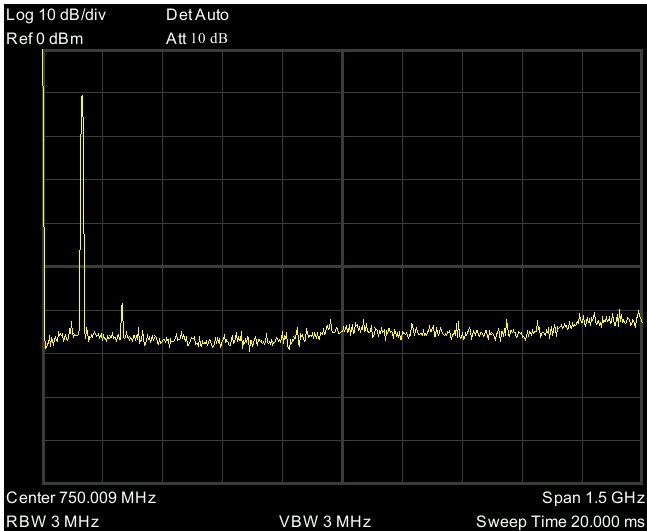

Figure 4-8 Full Span
- 1) Press **【Preset】** to restore the analyzer to its factory-defined state. The Spectrum analyzer will display the spectrum from 9kHz to the maximum span width. The signal generated will display as a vertical line at 100MHz. Refer to Figure 4-8.